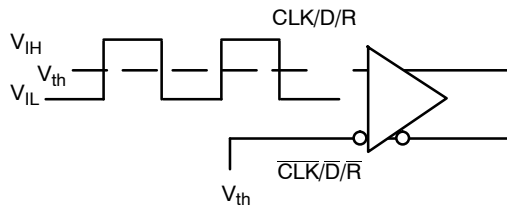

Figure 4. Differential Input Driven Single-Ended
**DIFFERENTIAL INPUT DRIVEN SINGLE-ENDED (Figures 4 & 7)**